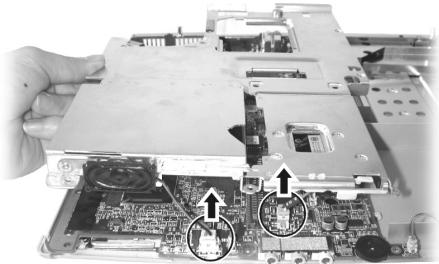

Figure 2-25
8. Disconnect two cables from the system board and lift up the base unit to access the system board. (Figure 2-25)